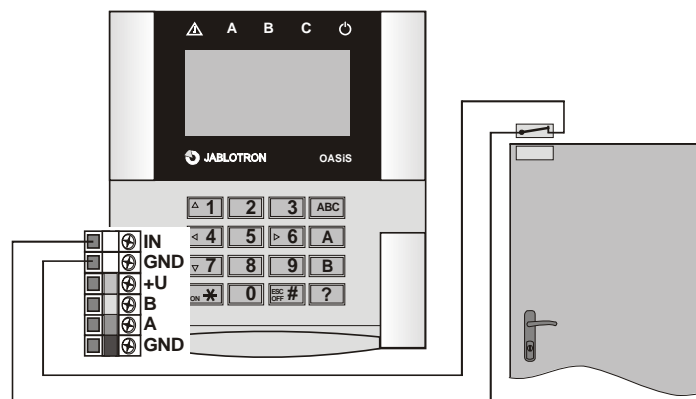

fig. 2 An example of door detector wiring
4. **Install the external door detector** (if required) and connect its cable to the IN and GND terminals. See fig. 2.